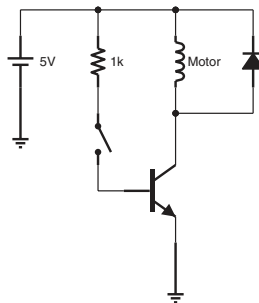
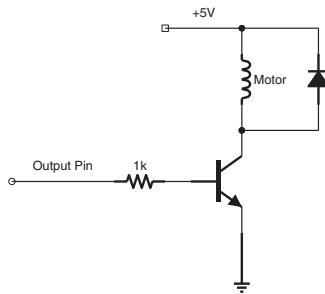

Figure 24-6. Using a Transistor as a Switch for a Motor
Figure 24-7. Using a Transistor to Control a Motor with a Microcontroller
The first circuit we will look at is Figure 24-6. In this circuit, there is no real *need* for a transistor—we could just as easily have put the switch where the transistor is. However, understanding how this setup works will help us understand other transistor circuits. In this circuit, the base is controlled by a small signal (the size of the signal is set by the size of the resistor). When the base turns on, it switches on the connection from the collector to the emitter, which controls current to the motor (the diode is simply a snubber diode as described in Chapter 20).
If you wanted to see inductive kick in action, you can replace the snubber in the circuit in Figure 24-6 with an LED. Every time you turn of the switch, the LED will light up for a moment.
To understand *why* we would use a transistor for a switch in the first place, let’s imagine that we have a motor just like in Figure 24-6, but in this case we want it to be controlled by an output pin from an Arduino running on an ATmega328/P.
Now, on this chip, output pins put out 5 V, but their current rating maxes out at 40 mA. However, motors usually require much more current than that. If we wanted our motor to use as much current as in Figure 24-6, it would blow out the chip if we tried to connect it directly to the output.
Figure 24-7 shows how this is configured. The schematic for this setup is almost identical to that of Figure 24-6. The only difference is that the electrical output of the Arduino is being used to control the base current instead of a mechanical switch. We can even calculate exactly how much current will be used. Since there is a diode (in the transistor), the resistor will be using 4.4 V. Therefore, since $I = \frac{V}{R}$, then $I = \frac{4.4}{1000} = 4.4\text{mA}$. With a beta of 100, that means that our motor can source 440 mA.
10. The output of your microcontroller is 3.3 V and supports a maximum output current of 10 mA. Using Figure 24-7 as a guide, design a circuit to control a motor that requires 80 mA to operate. Assume that the transistor beta is 100.